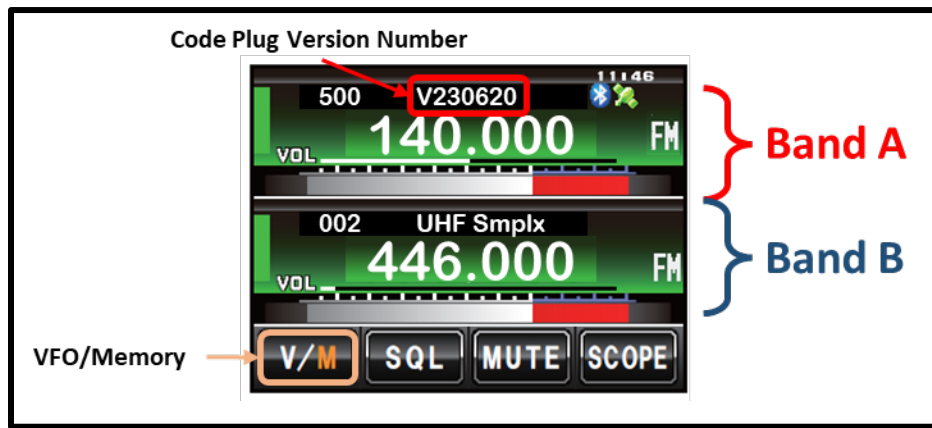

Figure 2. FTM-400XD Touch Screen Display
4. The version number for the code plug currently installed in the transceiver is displayed in the tag area above the frequency. Refer to Figure 2 for the location of the code plug version number.